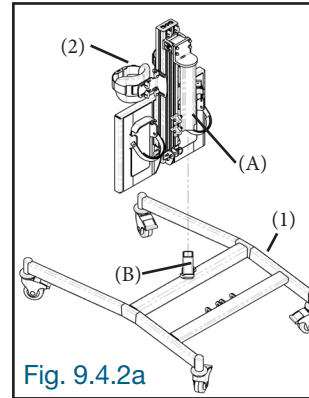

Fig. 9.4.2a
9.4.2a) Slide the profile (A) of the frame (2) onto the tube (B) of the base with wheels (1) (Fig. 9.4.2a).